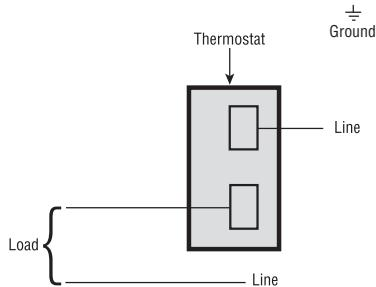
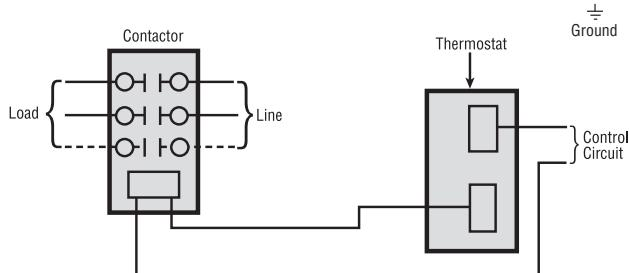

Figure 3 — Single phase loads when load does not exceed rating of thermostat.
Figure 4 — Single phase loads when load exceeds rating of thermostat and three phase loads.
4. Connect wires according to wiring diagrams (Figures 3 and 4). **Note:** Electrical connections should be made with generous loops of wire – approximately 6" per lead. **Note:** If load amperage or voltage rating exceeds switch rating, a contactor must be used. Contactor and wiring to be supplied by customer. (See Figure 4)